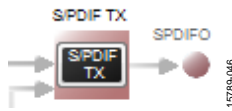

Figure 44. Confirming that the DSP Core Outputs are Routed to the S/PDIF Transmitter
- d. Confirm that the setting has taken effect by verifying that the color of the **S/PDIF TX** box has changed from gray to black (see Figure 44). If the color of the box changes to black, the DSP core has been routed to the S/PDIF transmitter; therefore, the output of ASRC 0 can be used in the DSP program.